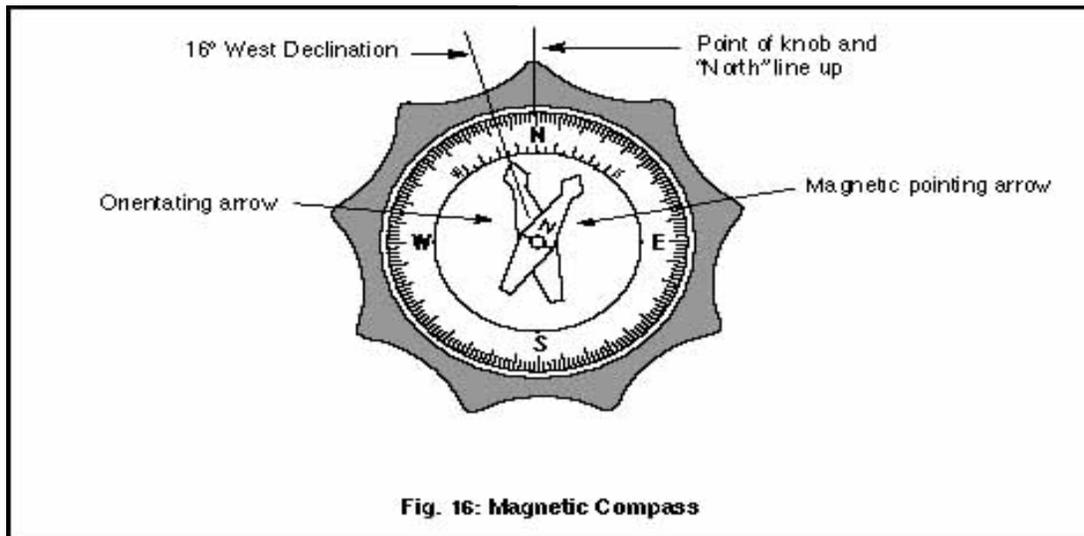

Fig. 16: Magnetic Compass
3. With the right hand, rotate the outer dial until the orienting arrow (the black arrow painted on the inside clear surface) is lined up with the desired Magnetic Declination angle on the declination scale. Notice that East Magnetic Declination is to the right of the "North" position and West Magnetic Declination is left of the "North" position. As an example, Fig. 16. shows the correct setting for 16 degrees West Declination, which covers Providence, Rhode Island.
1. Snap the Magnetic Compass into the 3" diameter wedge attachment knob (after setting the Magnetic Declination as described above). Position the compass into the knob so that the 360 degree location on the direction scale (the "North" position) lines up with one of the nine points of the knobs. (See Fig. 16.) Press the compass firmly into the knob.